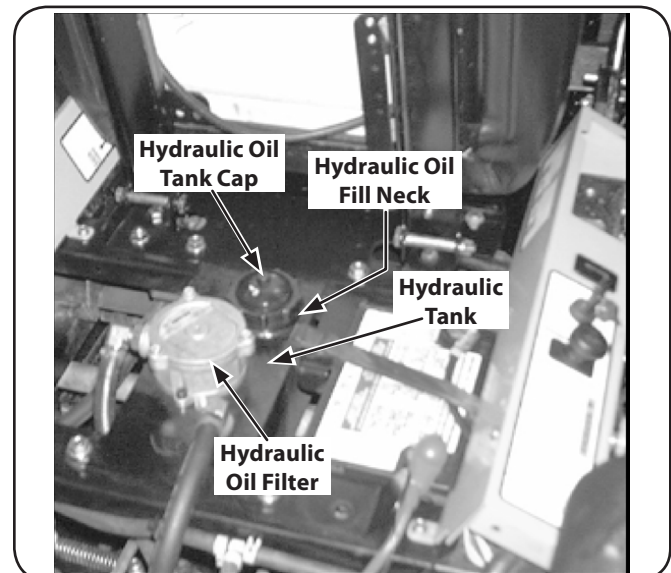

Figure 6-2
4. Clean the area around the hydraulic oil fill neck. See Fig. 6-2.
5. Remove the hydraulic fill cap and check the level. See Fig. 6-2. The correct level is up to the lowest hole of the oil tank fill neck.